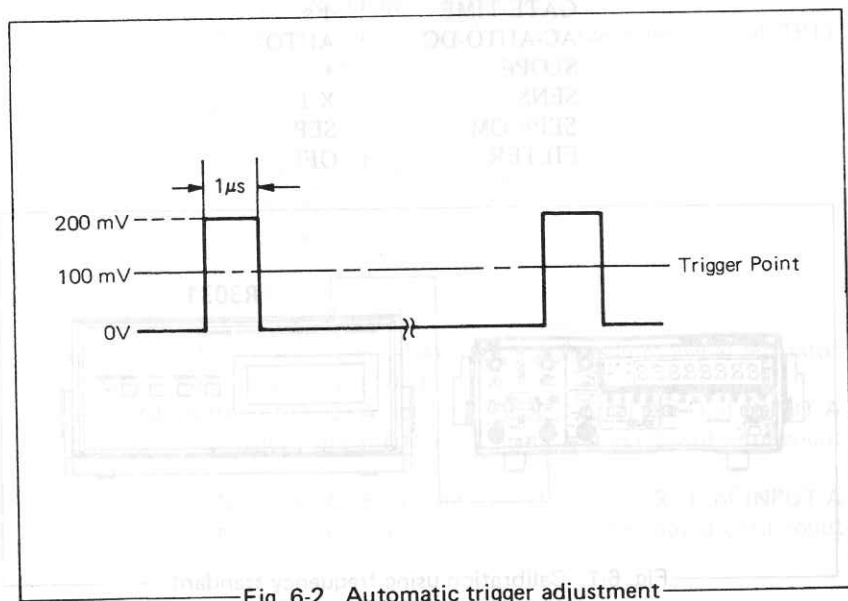

Fig. 6-2 Automatic trigger adjustment
- ② Apply the signal with the pulse generator of pulse width of $1 \mu\text{s}$, duty factor of 1/10, and amplitude of +200 mVp-p to **INPUT A** terminated with 50Ω .
- ③ Set **FUNCTION** to **FREQ. A**, connect the digital voltmeter to pin 2 of J22 on the dummy board, and rotate R72 to adjust the voltage to 100 mV. (See Figure 6-2.)
- ④ Set **FUNCTION** to **FREQ. B**, connect the digital voltmeter to pin 3 of J22 on the dummy board, and rotate R77 to adjust the voltage to 100 mV. (See Figure 6-2.)
Since the reference oscillator used in this counter is not temperature compensated, the temperature rise caused by **POWER ON** and internal temperature change by power fluctuation affect the stability of the reference oscillator. Figure 6-2 shows the standard values of warm-up time and power fluctuation of this unit.